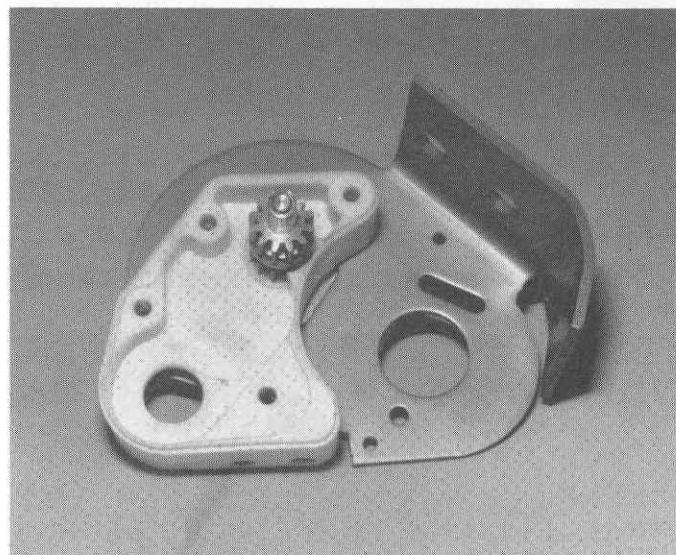

Fig. 83
□ **Fig. 83** Slip the R.H. half of the housing onto the dif.